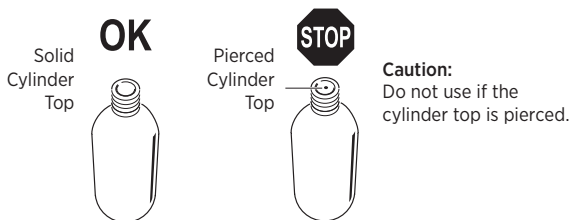

FIGURE 8 CHECKING CO₂ CYLINDER
Inflation will occur automatically within ten seconds after the inflator is immersed in water. The water-sensing bobbin will disintegrate, triggering a spring-loaded plunger, which punctures the CO₂ cylinder (Fig. 8) to inflate the PFD.
9. Check the new cylinder. Ensure that the CO₂ cylinder has not been pierced (Fig. 8).
3. Check the new cylinder to ensure that it has not been pierced (Fig. 8).